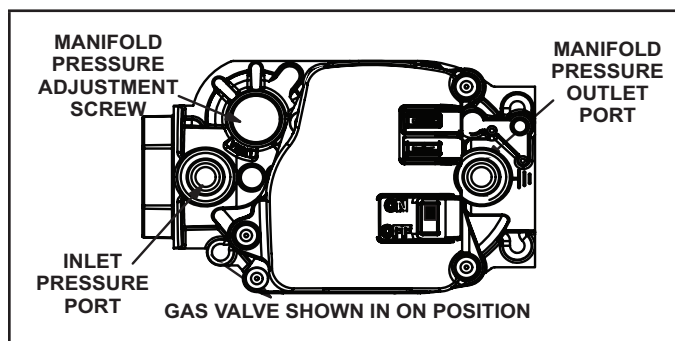

Figure 66
#### Gas Valve Operation Figure 66
- 6 - Move gas valve switch to OFF. See Figure 66.
- 8 - Move gas valve switch to ON. See Figure 66.
When testing supply gas pressure, use the 1/8" N.P.T. plugged tap or pressure post located on the gas valve to facilitate test gauge connection. See Figure 66. Check gas line pressure with unit firing at maximum rate. Low pressure may result in erratic operation or underfire. High pressure can result in permanent damage to gas valve or overfire.